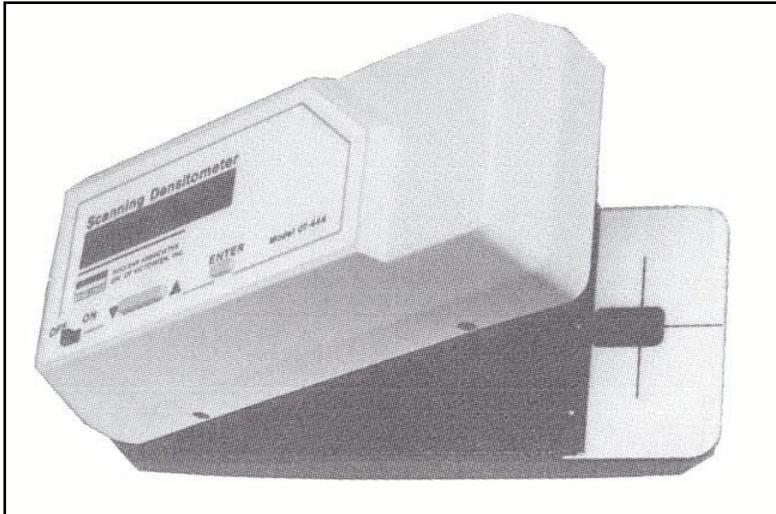

Figure 5-1. Aperture Location
6. Position the film or step wedge so that the area to be measured is over the aperture (Figure 5-1).